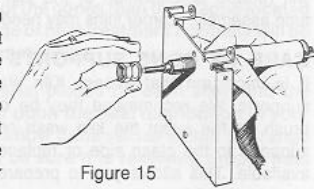

Figure 15
5. Remove nut and washer from the new tube assembly. Insert nipple and tube through hole in baffle plate, as shown in Figure 15. Replace washer and nut but before tightening be sure that the spline, protruding from the baffle plate engages in the notch at the top of the tube metal jacket. When the nut is tightened, the end of the nipple threads should be flush with the outer surface of the nut. If necessary, the nipple can be threaded in or out of the jacket to achieve this adjustment. When these things are done, tighten nut firmly.